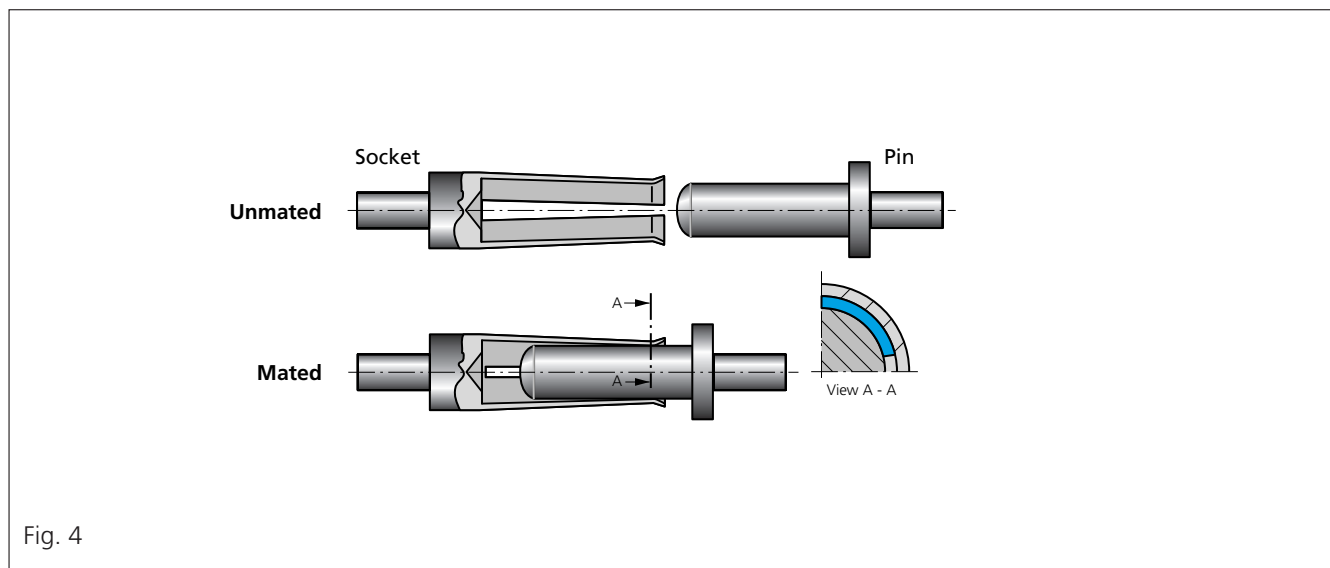

Fig. 4
**Slotted sockets** in their simplest form have one slot with two contact points between socket and pin. Sockets with two slots have four contact points (See Fig. 4 below).